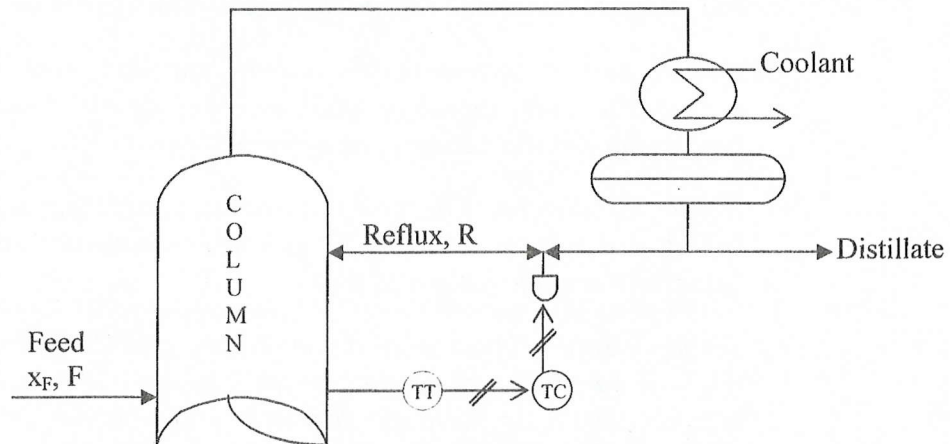

Figure Q.1: Temperature control system for a distillation column.
- [d] A temperature control system for a distillation column is shown in Figure Q.1: